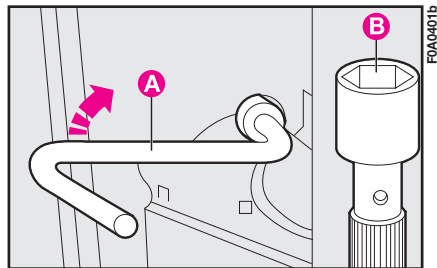
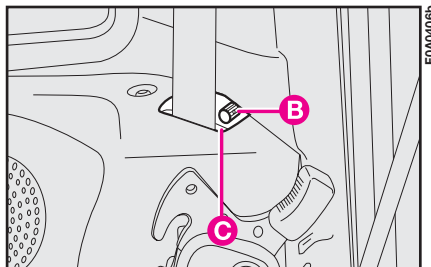

fig. 28
fig. 28a
2) Fit the wrench provided **A-fig. 28** (used also to remove the wheel) to the fastening bolt of the light unit.
3) Loosen the bolts, then undo the light cluster fastening nuts by means of extension **B-fig. 28** supplied with the unit.
As regards the 7-seater version is concerned, undo the light cluster fastening bolt by means of extension **B-fig. 28** inserted onto the bolt through slotted hole **C-fig. 28a**.